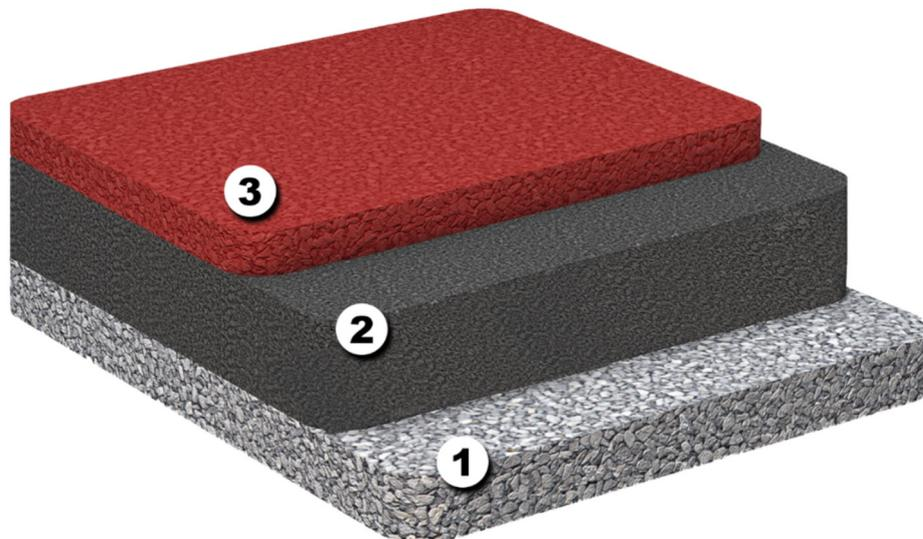

Figure 1. Schematic diagram of NEUROFLOOR safety surfacing.
NEUROFLOOR safety surfacing is laid on a primed asphalt, concrete, mineral or mineral-rubber base (*Fig. 1, layer 1*). The NEUROFLOOR system consists of two layers:
- Technical SBR granulate (2 - 6 mm) bound with PC 31-050/ PC 31-065 single-component polyurethane adhesive. The layer thickness depends on the height of the fall you want to cushion (*Figure 1, layer 2*).
- Virgin EPDM granulate (1 - 3.5 mm) bound with polyurethane adhesive. Depending on requirements, PC 31-050 (aromatic adhesive) PC 31-065 (aromatic adhesive at low temperatures), PC 31-033 (aliphatic adhesive for EPDM, UV resistant) or PC 31-075 (aromatic adhesive for EPDM with fast setting reaction) are used. The EPDM layer thickness is fixed (10 mm) (*Fig. 1, layer 3*).